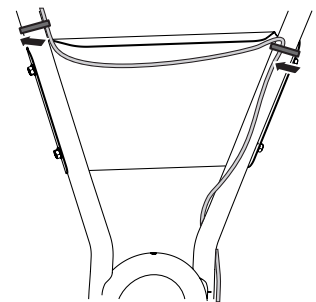

Figure 10
4. Route the wire behind the panel to the left side handle, and secure it just above the upper corner of the panel with a cable tie. (Keep the wire positioned along the inside of the handle). See Figure 10.